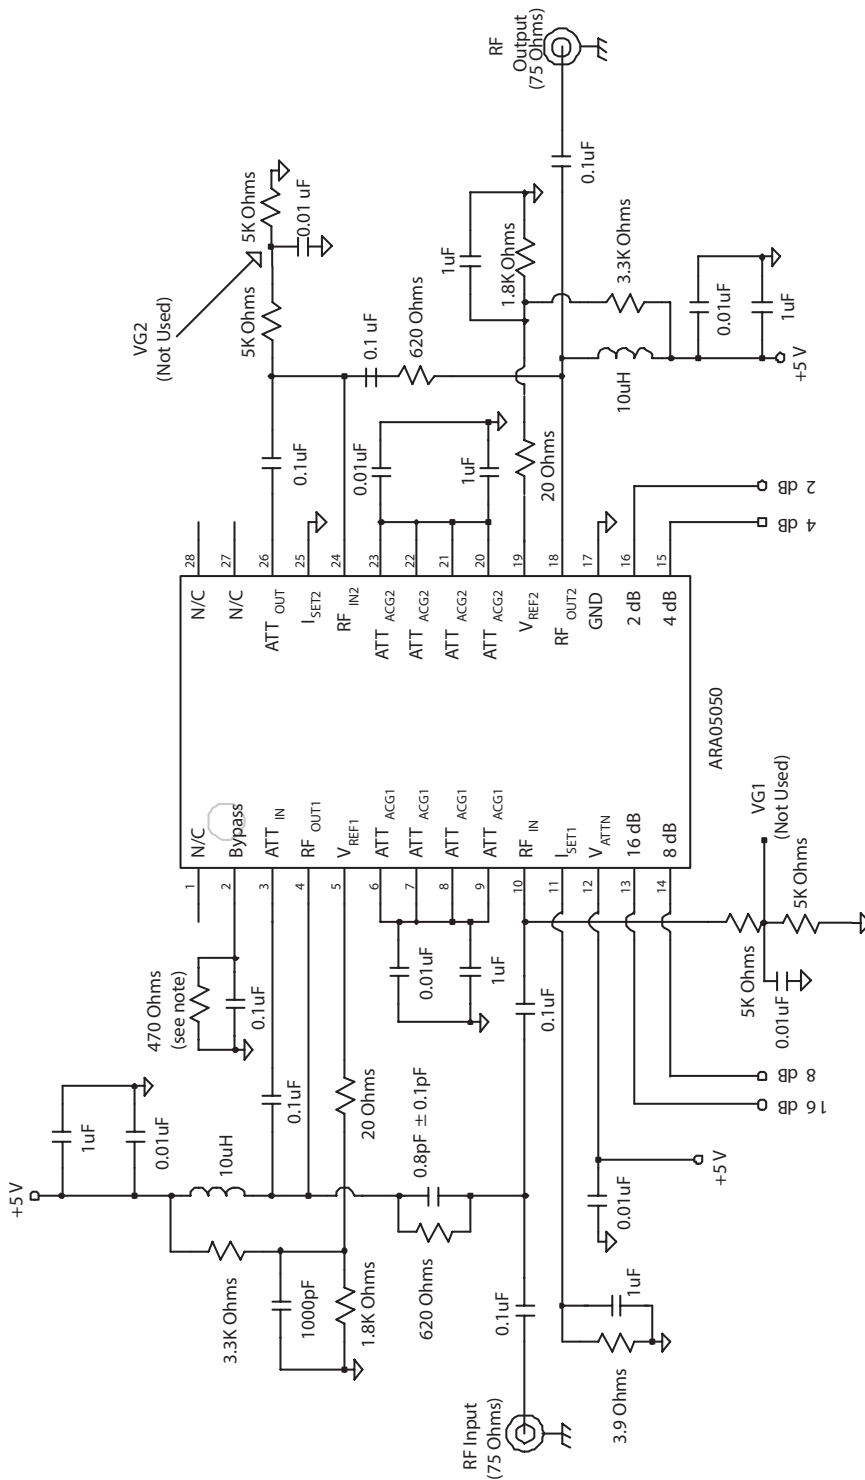

Figure 4: Test Circuit
(1) Specification applies when 470 Ohm resistor is connected from pin 2 to ground (see test circuit in Figure 4).
The  $I_{SET}$  pins (11 and 25) set the bias current for the amplification stages. Grounding these pins results in the maximum possible current. By placing a resistor from the pin to ground, the current can be reduced. The recommended bias conditions use the configuration shown in the test circuit schematic in **Figure 4**.